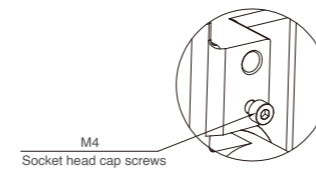

Fig.1a
Step 1. Secure the yoke and fixture with appropriate fasteners directly to a structural member; Adjust the angle (6x30°) of the yoke and fix the position with M8 and M4 screws (provided), follow the steps, see fig 1a / 2a.